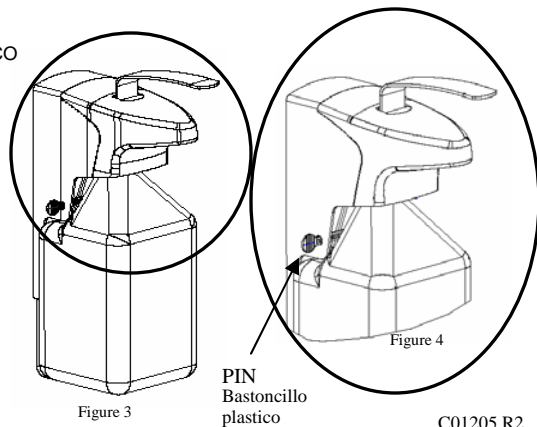

Figure 3
-INSERT LOCKING PIN TO HOLD THE BOTTLE IN PLACE AS SHOWN IN FIGURE 3